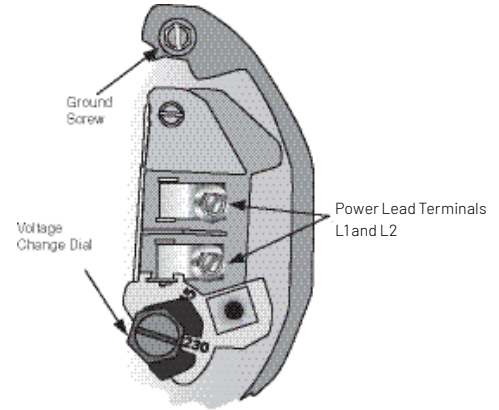

Figure 9 : Voltage set to 230 volt current. Rotary selector
- Refer to Figure 9 for wiring configuration.
- Connect current-carrying conductors to terminals L1 and L2. When replacing the motor, check wiring diagram on the motor nameplate. For 3-phase motors or motor's whose wiring diagram does not match Figure 9, follow the diagram on the motor.